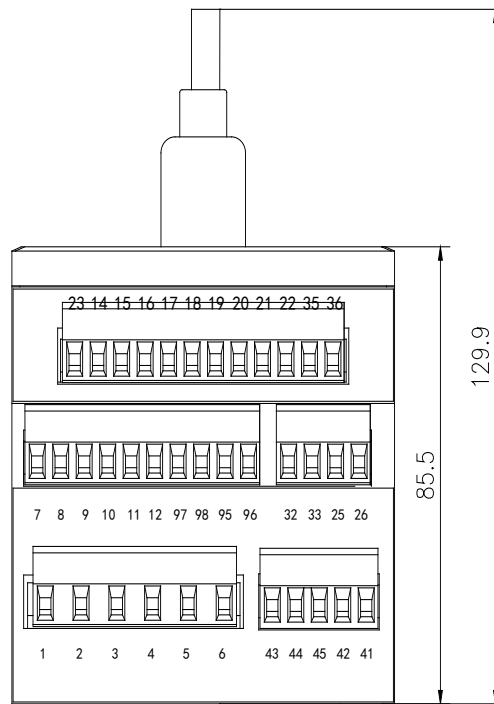

Figure 1 ARD3 Main part control module dimension
4.1 Appearance of main part control module, as shown in figure 1